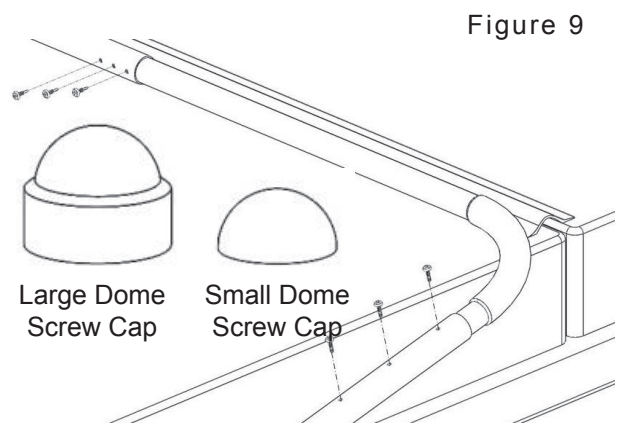

Figure 9
10 Press the decorative **Large Black Dome Caps (L)** over the heads of the **3/8" x 3" Hex Cap Bolts**. Then press the decorative **Small Black Dome Caps (M)** over the heads of all exposed **#10 screws (J and K)**. You may need a small amount of glue/epoxy depending on the climate. See *Figure 9*.